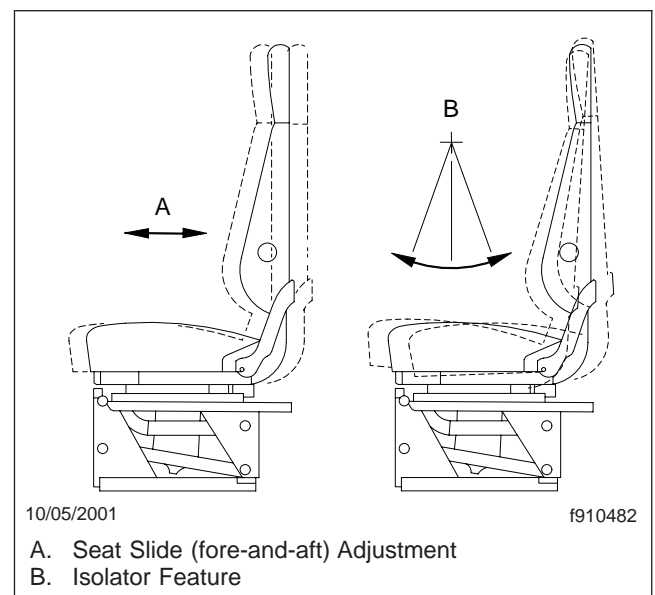

Fig. 5.6, Seat Slide Adjustment and Isolator Feature
1. **Seat Slide (fore-and-aft):** When this adjustment is made, the entire seat moves forward or backward on its track (Fig. 5.6).
2. **Isolator:** This feature (also referred to as backslap isolator or Chugger-Snubber[®]) reduces the amount of road shock by isolating the occupant from the motion of the vehicle, and allowing the upper seat to move in a simple pendulum motion. Whenever the isolator is not desired, it can be locked out (Fig. 5.6).